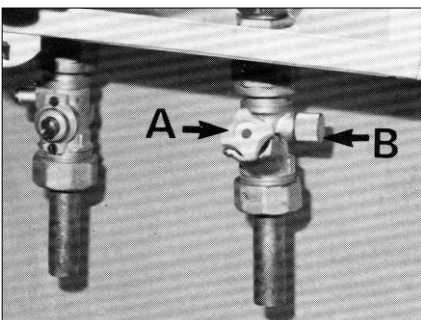

Fig. 5
- 2) Turn off the cold water supply to the heater with the tap fitted below (A) (fig. 5).
- 4) Remove the drain plug (B) (fig. 5), and drain the water into a basin.